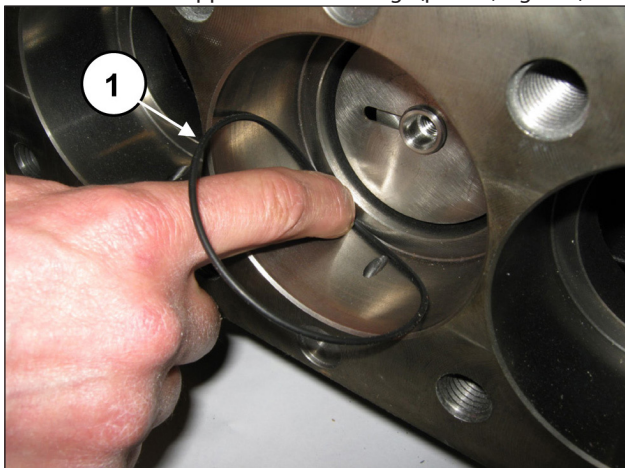

Fig. 154
Remove the seal support bottom O-rings (pos. ①, Fig. 154).